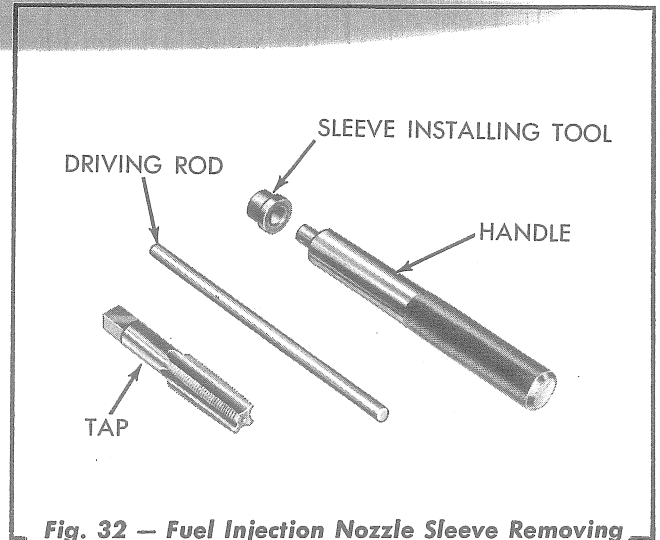
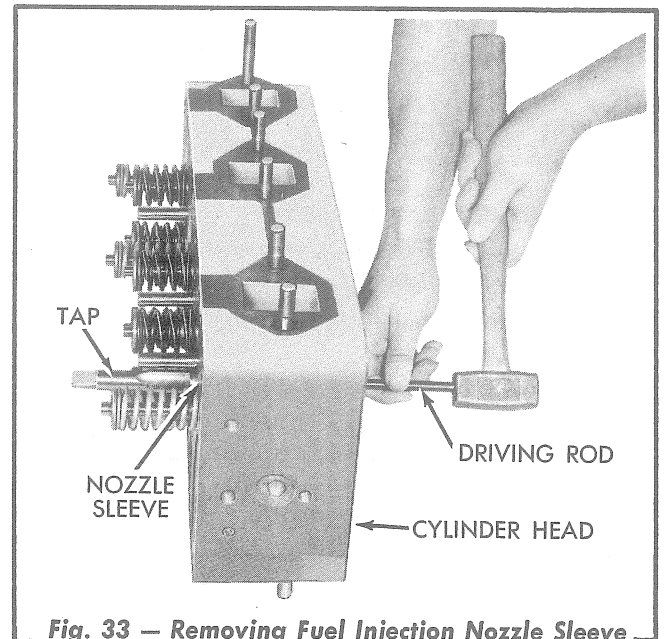

Fig. 32 — Fuel Injection Nozzle Sleeve Removing and Installing Tool Details (Tractors Serial No. 4001 and Above)
Fig. 33 — Removing Fuel Injection Nozzle Sleeve (Tractors Serial No. 4001 and Above)
1. Using tools similar to the ones shown in Fig. 32 screw the tap ($\frac{7}{8}$ ") down into the fuel injection nozzle sleeve as shown in Fig. 33.
Figs. 32 and 34, drive the nozzle sleeve into position in the cylinder head until it bottoms solidly in the bore.